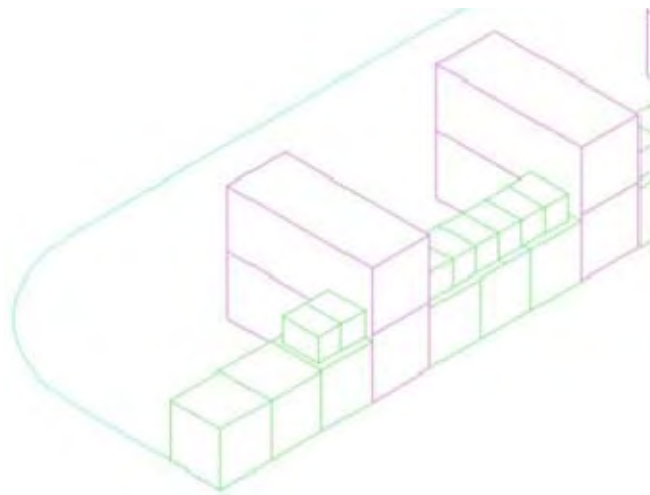

Figure 1: ISO to ECM with 21 foot separation of containers
feet up the side of the top container, with a slope of 2 to 1). This, essentially, converts the bottom MILVAN/ISO container into an undefined ECM. See figure 1 for the general layout. USATCES also developed new Drawings, Quantity Distance (QD) Tables, and even overhead drawings with QD Arcs. These are available in both portable document format (pdf) and drawing (dwg) formats.